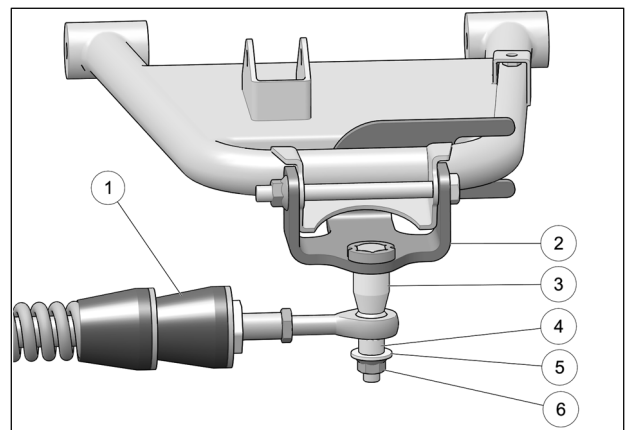

Fig. 9
- Attach stabilizing rod (1) to anchor bracket (2), using bolt (3), short spacer bushing (4), long spacer bushing (5), flat washer (6) and nut (7). Torque to 70 N•m [52 lb•ft]. See Fig. 9